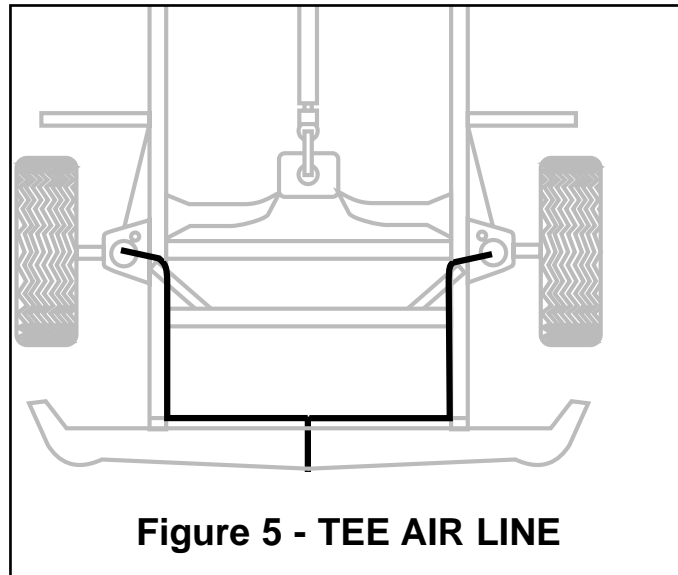

Figure 5 - TEE AIR LINE
- E. Route along cross member and upper spring seat to air cylinder (Figure 5).
- H. Push the remaining air line over the last fitting on tee and route along frame to desired inflation valve location (Figure 5 & 8). Attach with plastic straps or wire.